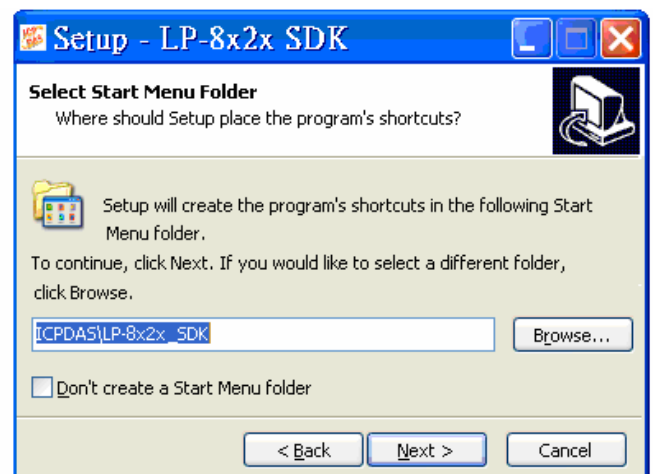

Fig. 2-11
4. Select Start Menu Folder option and then click the “Next” button, refer to Fig. 2-11.